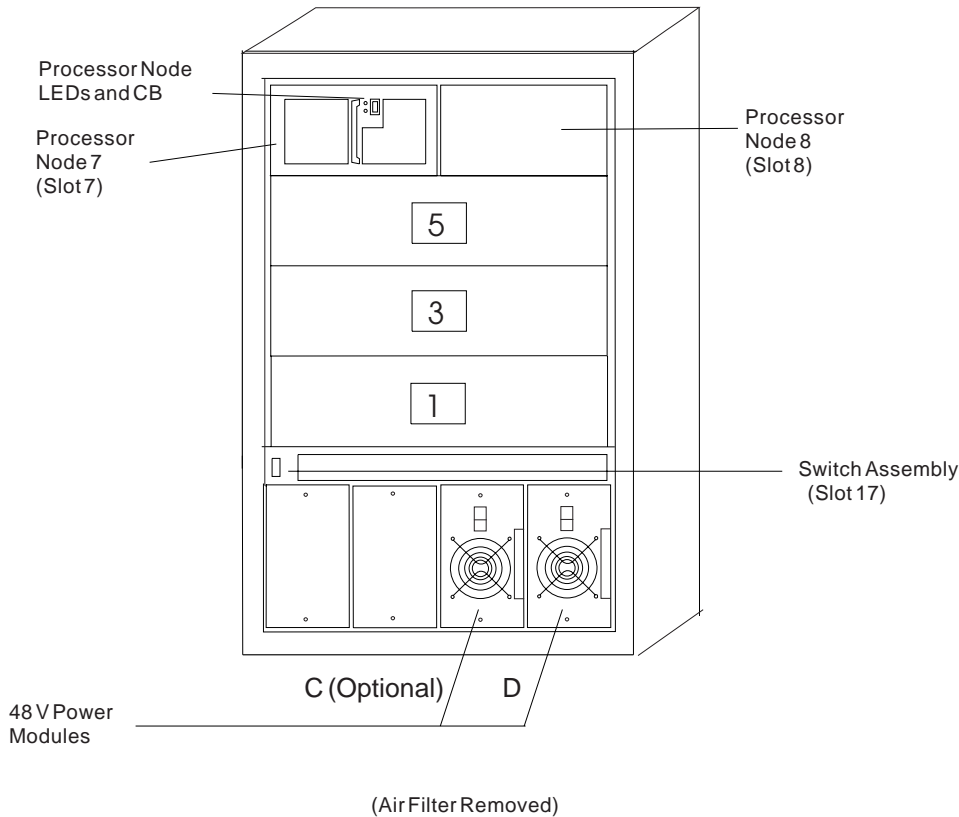

Figure 1-19. Front View of 49-Inch Frame Locations
- The LC8 has only one power module (in position D — see Figure 1-19 on page 1-223) and optionally one additional power module in position C.